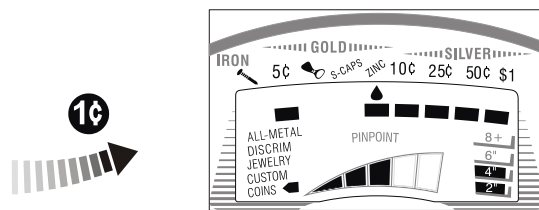

Fig16
- d) While sweep the other three samples, the response of the detector is the same with the ALL METAL mode.(See Figure.16,for example as 1¢)